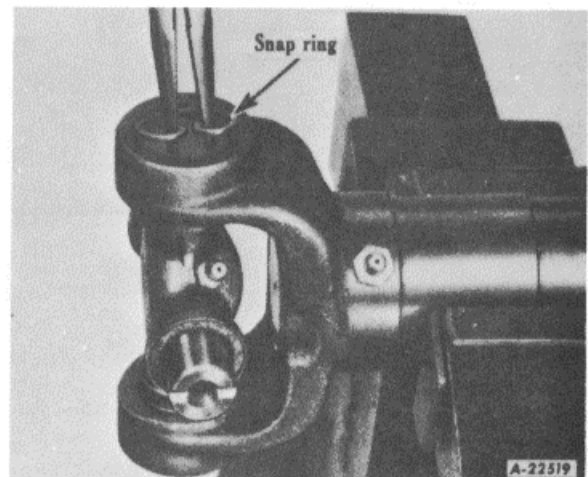

Fig. 17
- d. Remove the snap ring from the slip joint or yoke. Turn the joint over and remove the opposite snap ring, Fig. 17.